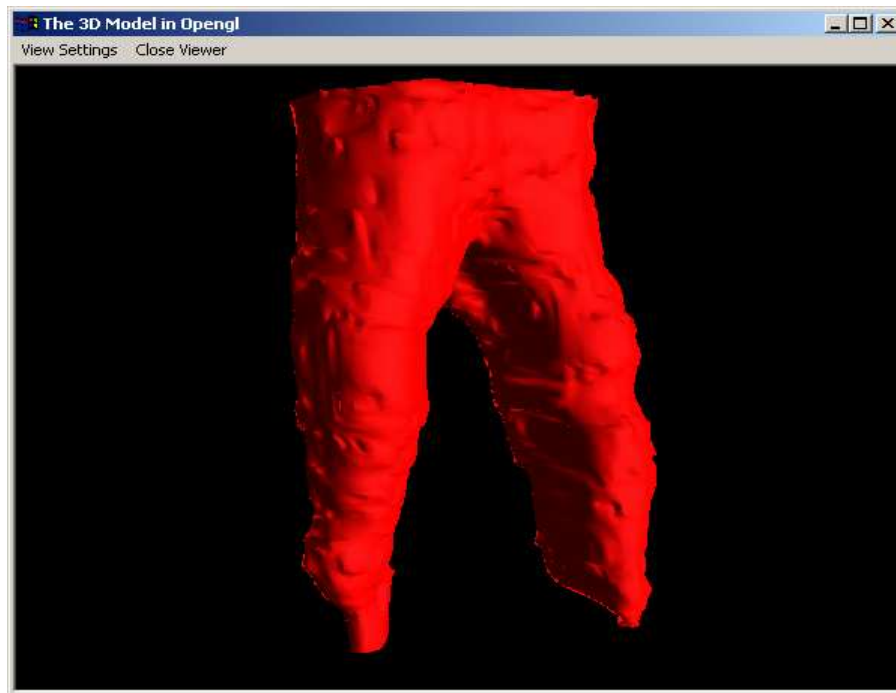

Figure 4: The 3D model in OpenGL display window.
*Show 3D model* button: When checked, an OpenGL platform is opened, where the 3D model is displayed (Figure 4).